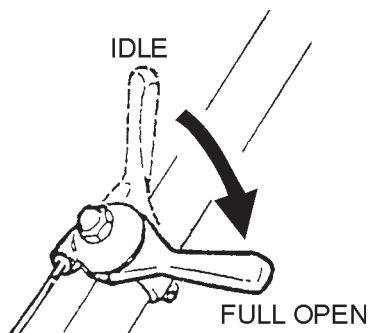

Figure 10. Throttle Lever (Full Open)
1. To start the rammer tamping action, move the throttle lever (Figure 10) quickly from **IDLE** (close) to the **FULL OPEN** position. **DO NOT** move the throttle lever slowly as this may cause damage to the clutch or spring.